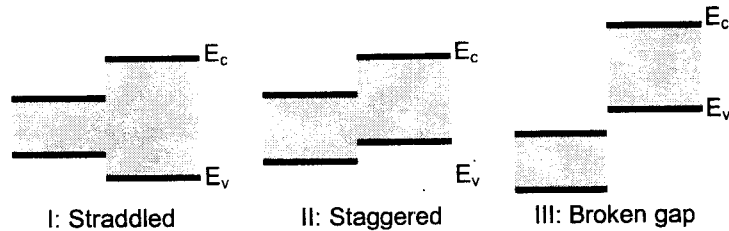

Figure 2.1: Heterojunction energy band diagram alignments
- a) Which of the band alignments, shown in Figure 2.1, is needed to confine both electrons and holes in the same material? [2]